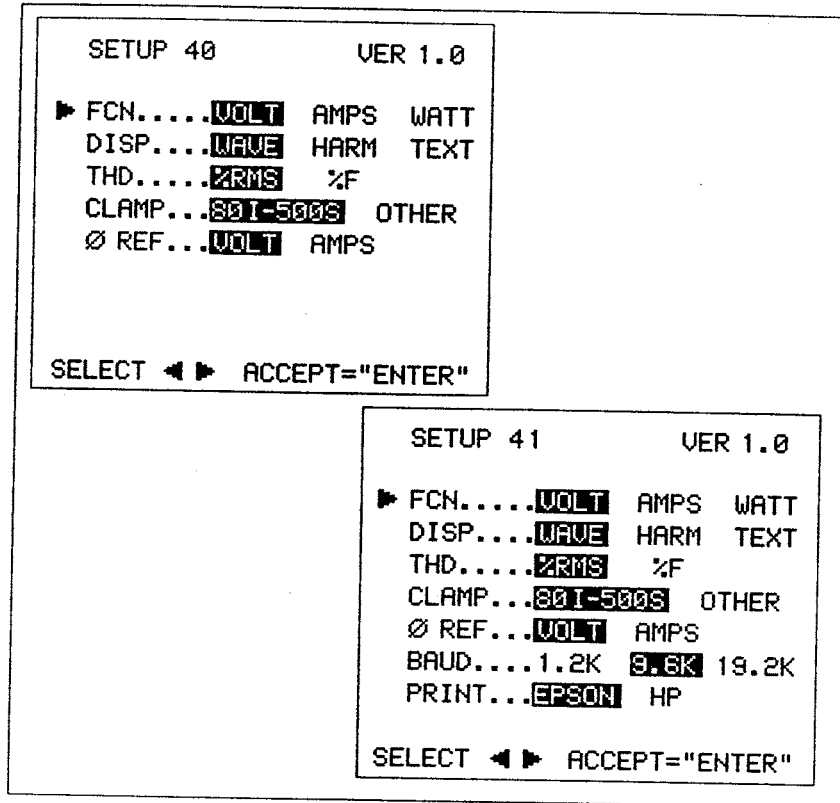

Figure 15. Configuration Screens
1. Press  while pressing  to turn the Tester on. The appropriate Configuration Screen (Model 40 or 41 - see Figure 15) appears.